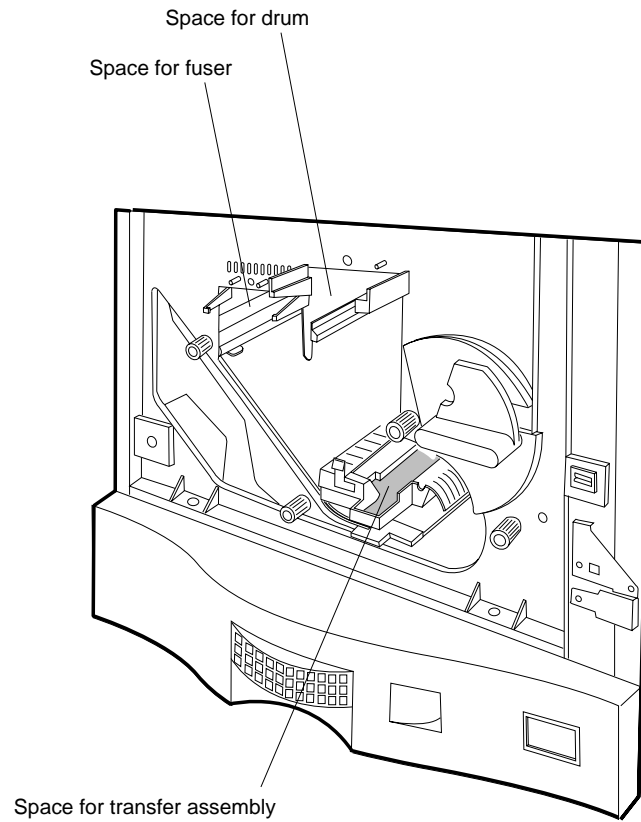

Figure 2-25 Inside the Front Door
- Figure 2-25, shows where the components are installed in this procedure.